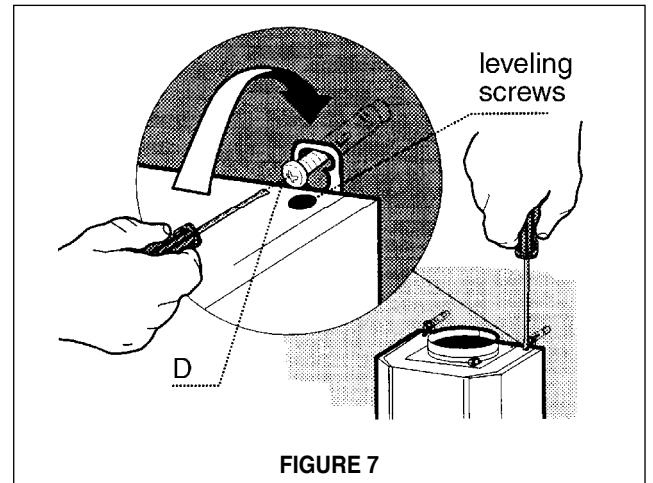

FIGURE 7
2. Before mounting the CANOPY SECTION, tighten the two leveling screws located near the CANOPY SECTION mounting points as indicated in **FIGURE 7**.
3. Hook the body on to the MOUNTING SCREWS (**D in FIGURE 7**) and fully tighten the MOUNTING SCREWS.